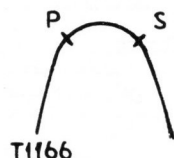

Figure 6.
2. Switch the tuner to Channel 5 and adjust C7T so that the input circuit response is symmetrically placed with respect to the picture and sound markers as shown in figure 6.